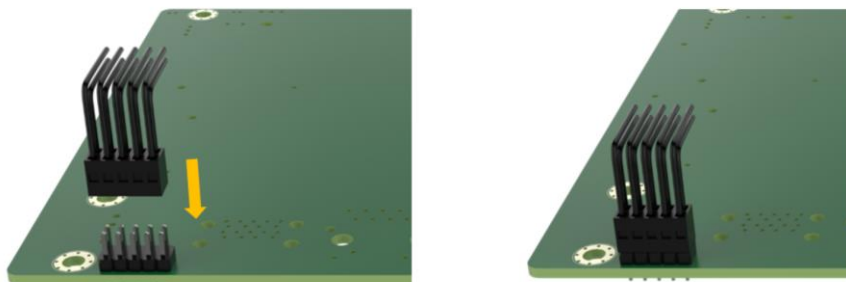

Figure 3-11: RS-232 Cable Installation
Step 2: Connect the serial cable to the serial connector on the mainboard. **(Figure 3-11)**